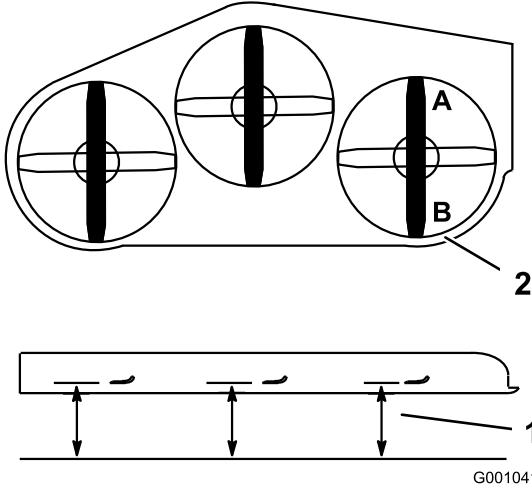

Figure 78
1. Position the **right** blade front-to-rear (Figure 78).
2. Measure the right blade at the **A** location, from a level surface to the cutting edge of the blade tip (Figure 78).
4. Measure the right blade at the **B** location, from a level surface to the cutting edge of the blade tip (Figure 78).
6. The mower blade should be a 1/4 to 3/8 inch (6 to 10 mm) lower at position **A** than at position **B** (Figure 78). If it is not correct, proceed to the following steps.